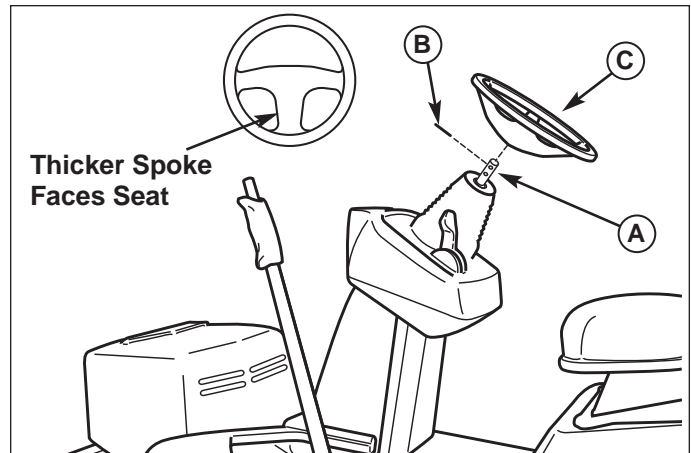

Figure 22. Steering Wheel Components
1. Use a suitable punch to remove the roll pin at the base of the steering wheel (B, Figure 22).
2. Pull down on the rubber boot to expose the two holes in the steering shaft (A).